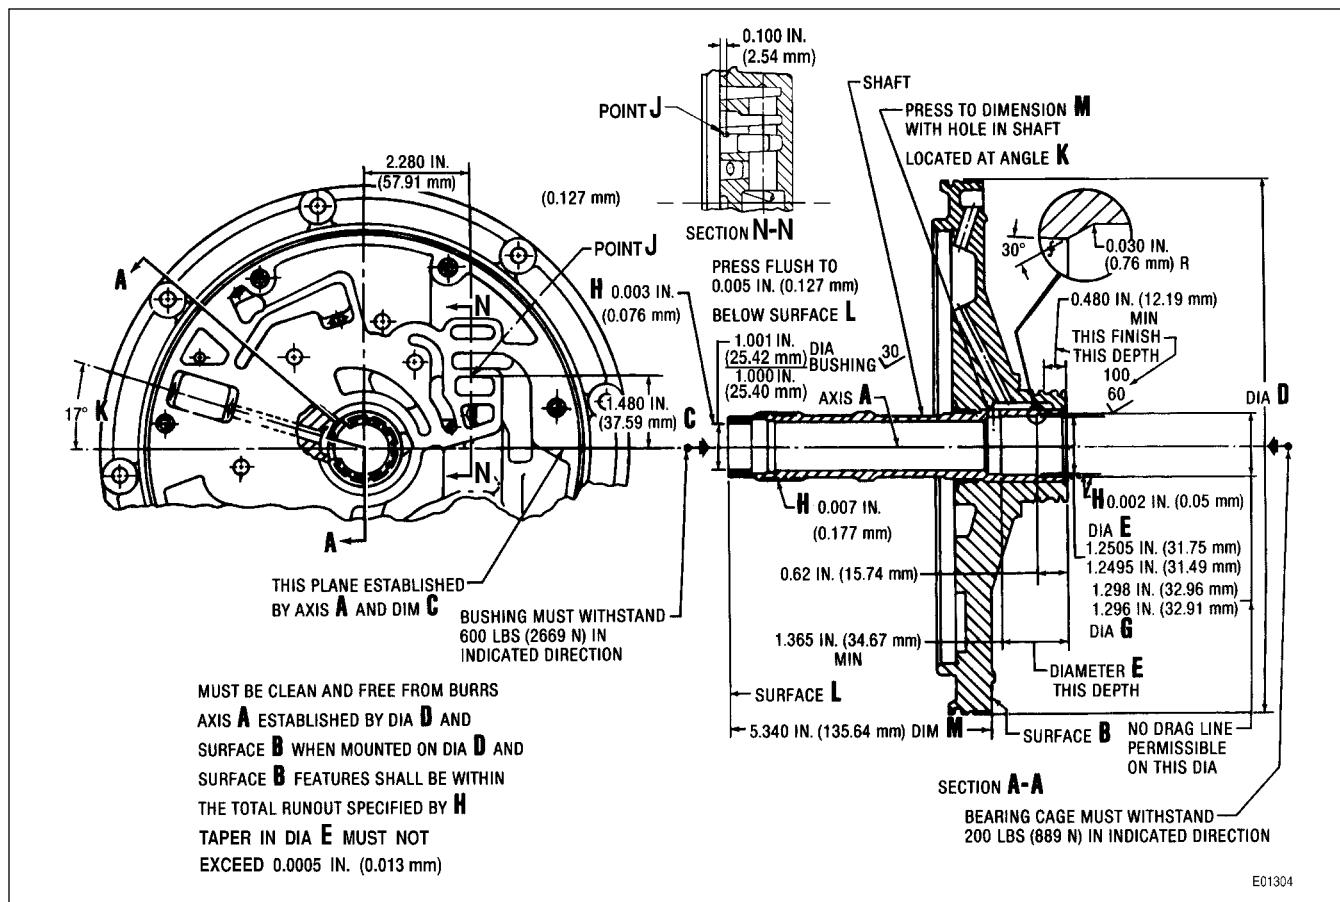

Figure 6-25. Installation of Stator Shaft, Machining of Bushing and Bearing Bores (AT 500 Series)
(1) Support the front support in a press with the pump face upward.
(2) Position the stator shaft in the center bore of the front support, aligning the hole in the stator shaft within Angle K (Figure 6-25 or 6-26).
(3) Press the stator shaft into the front support to Dimension M as measured from Surface B to the end of the stator shaft (Surface L) (Figure 6-25 or 6-26). Axis A is established by Diameter D and Surface B. When mounted on Diameter D and Surface B, features shall be within the total runout specified by H.
(4) Observe specifications for machining Diameters E and G.
(6) Machine the bushing to the diameter and microfinish specified (Figure 6-25) while maintaining TIR not to exceed 0.003 inch (0.076 mm).
(7) Thoroughly clean the assembly of any metal chips and dirt, being careful to clean all passages in the front support.